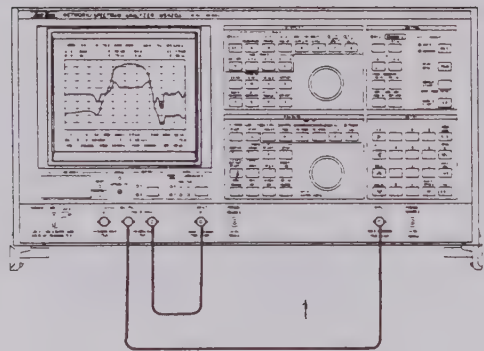
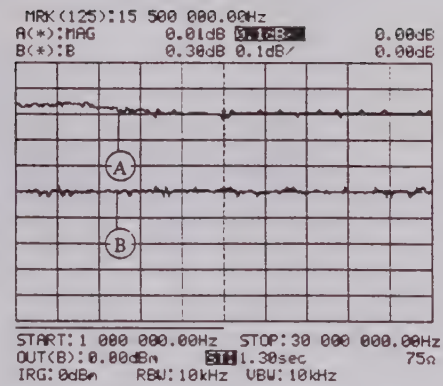

Fig. 2-52 Connection for Calibration
Fig. 2-53 Calibration Display
When magnitude is measured with the connection diagram shown in Fig. 2-52 waveform (B) of Fig. 2-53 is displayed on the CRT. This measured value shows the frequency response of the MS420[] itself. To eliminate this frequency response, do the following.
4.	Wait for the waveform (A) shown in Fig. 2-53 to appear on the CRT.